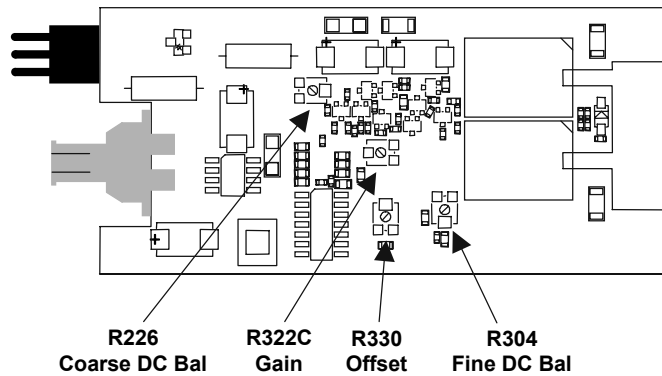

Figure 11. Amplifier Board Adjustment Locations
5. Adjust **Coarse DC Bal** (R226) on the amplifier board for an output voltage of $0\text{ mV} \pm 10\text{ mV}$. (See Figure 11 for location.)
- Adjust **Fine DC Balance** (R304) until the **+10 EFFECTIVE GAIN** indicator lights. (See Figure 11.)
11. Adjust **Offset** (R330) to bring the trace back to exactly center screen. (See Figure 11.)
9. Adjust **GAIN** (R322C) so that the DMM reading is within ± 1 mV (0.5%) of the reading recorded in step F-6. (See Figure 11.)